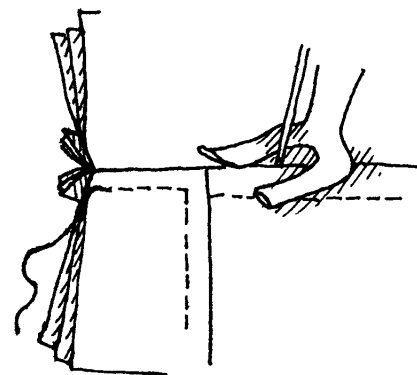

Fig. 3
6. Sew by machine through all thicknesses in-the-ditch (Fig.3) of each seam and $\frac{1}{4}$ " away on either side of the seam. This gives a neat quilted effect to the jacket. Sew together the underarm and side seams and finish them as self-bound seams (Vol. I, No. 1, page 26, Fig. 3).